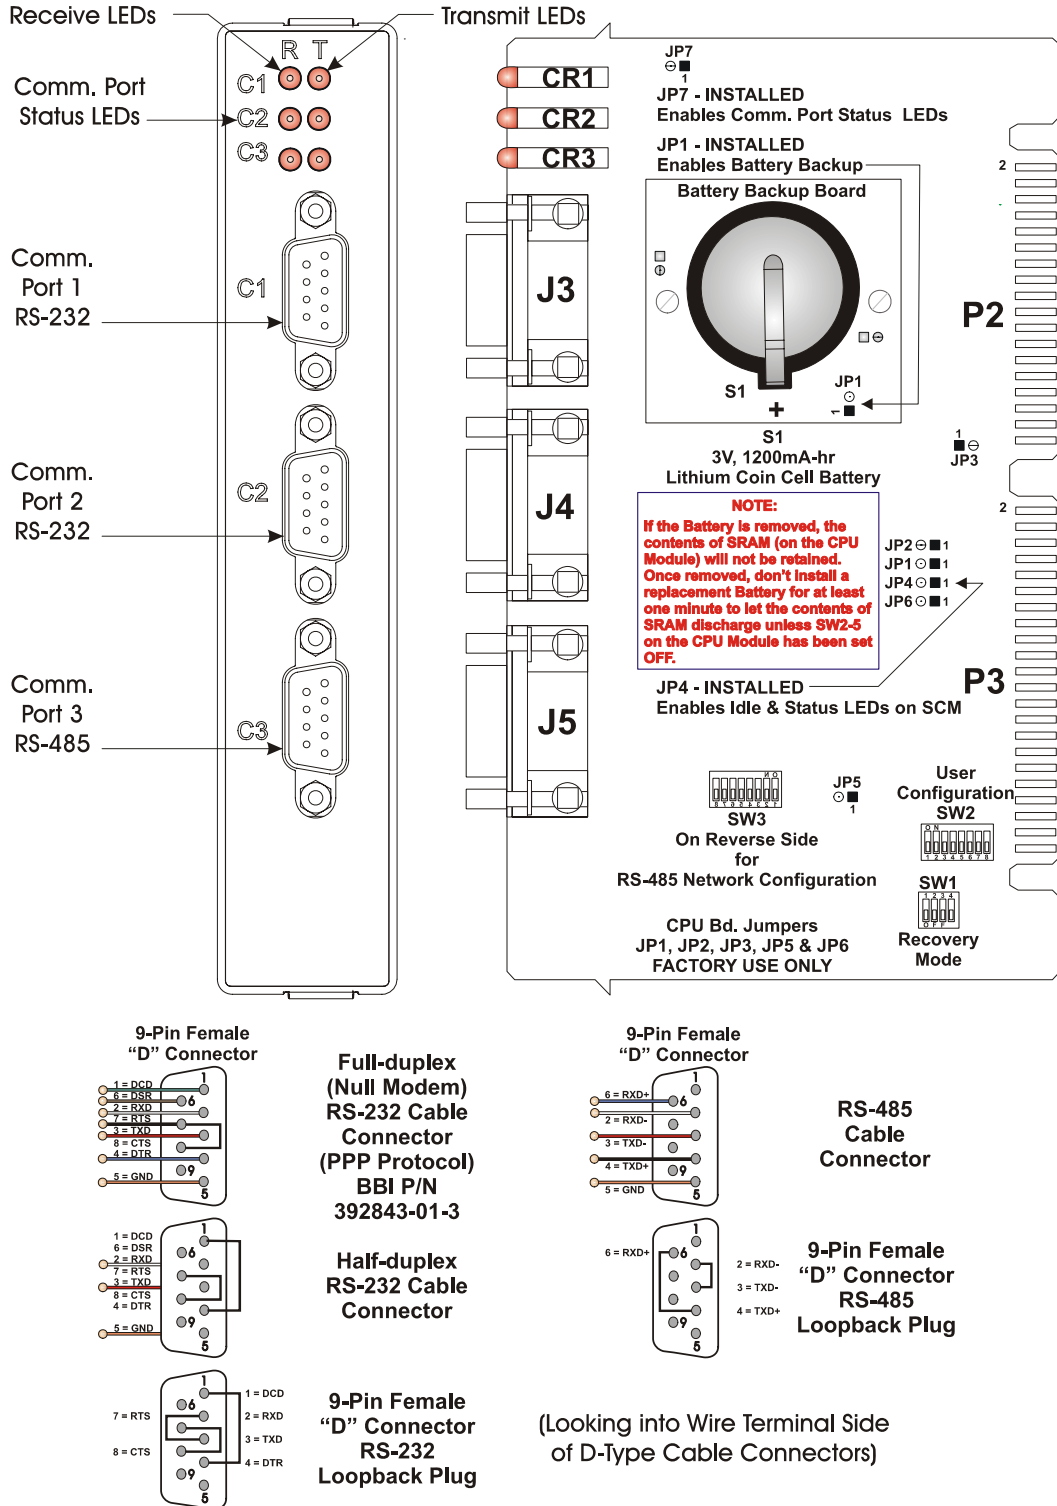

Figure C-3 - CPU Module Component Identification Drawing
- Remove the CPU Module. Make sure that the Lithium Backup Battery has been enabled, i.e., Backup Battery Board Jumper JP1 should be installed (on its jumper posts). After configuring the CPU Module's DIP-Switches (see Section 2.3.3), install it into **ControlWave EFM** Base Assembly, chassis slot 2, i.e., the second slot from the left end of the Base Assembly Chassis. Tables C-1, C-2 and C-3 provide an overview of switch settings (see Tables C-1, C-2, C-3 and Figure C-3).